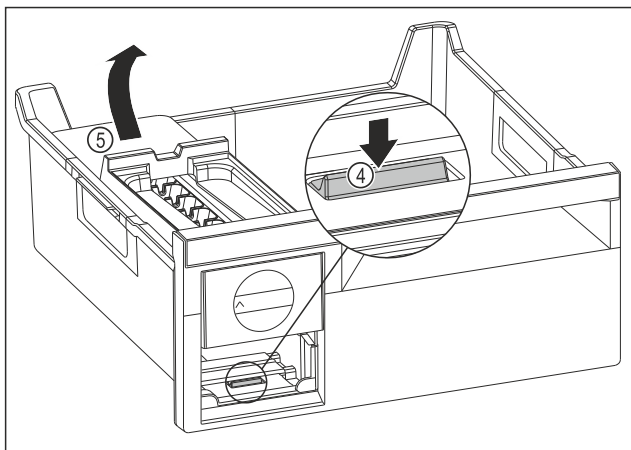

Fig. 154
- Removing the EasyTwist-Ice body: Use your finger to push the tab Fig. 154 (4) down and use your other hand to lift the EasyTwist-Ice body Fig. 154 (5) from behind at the same time.